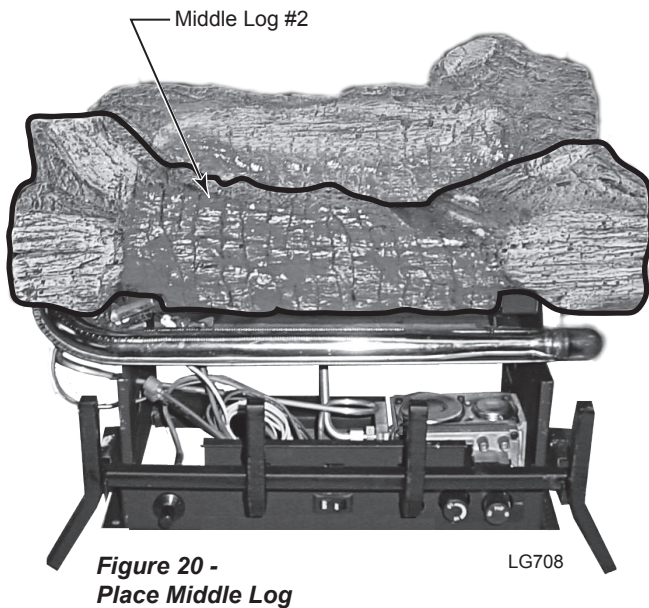

Figure 20 - Place Middle Log
2. Place Middle Log (#2) on middle support. *Figure 20*